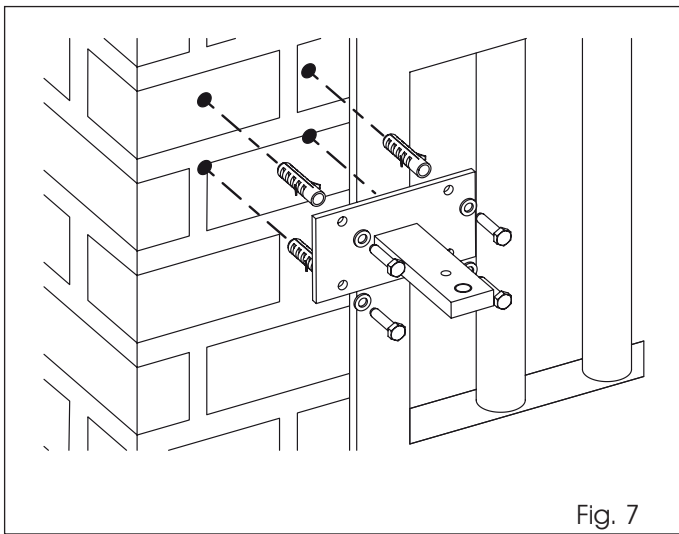

Fig. 7
- For masonry pillars, use a steel plate (not included) to attach the rear bracket (Fig. 7). Use a suitable fastening system then carefully weld the bracket to the plate.